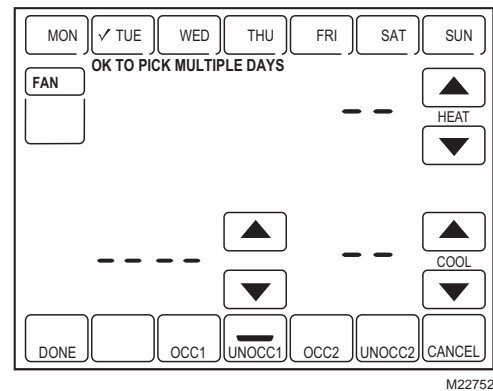

Fig. 38. Screen displayed when a period is cancelled.
6. The time, temperature(s) and fan setting disappear. The bar above the selected period is removed, indicating the scheduled period was cancelled. (See Fig. 38.)